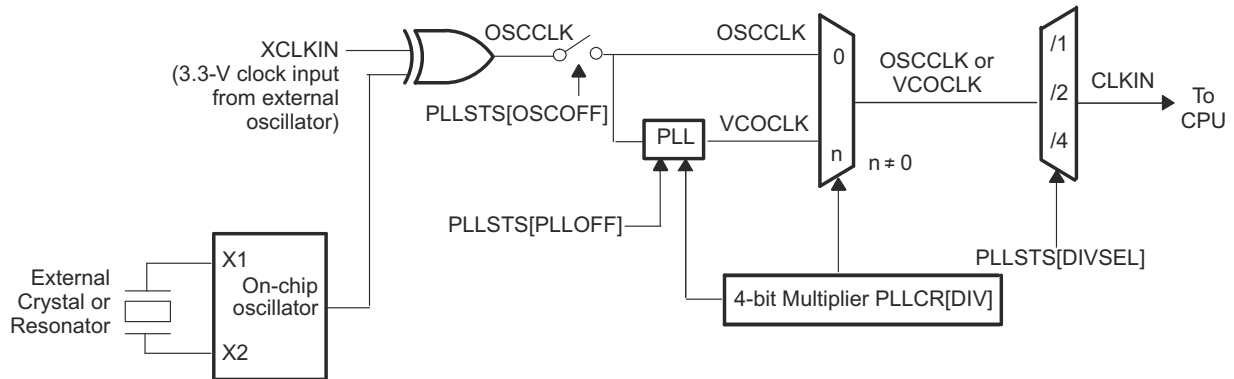

图 8-30. OSC and PLL Block Diagram
- A. CLKIN is the clock into the CPU. It is passed out of the CPU as SYSCLKOUT (that is, CLKIN is the same frequency as SYSCLKOUT). See 图 8-30 for an illustration of how CLKIN is derived.
图 8-30 shows the OSC and PLL block.